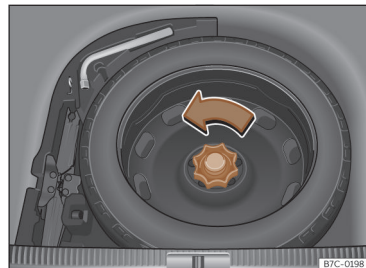

Fig. 227 In the luggage compartment: load floor raised. »
- Turn the thumb wheel anti-clockwise »» **Fig. 227**.